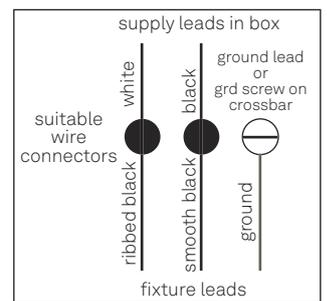

Figure 6. Wiring Diagram
- 8 With the fixture composition in-place, and while the fixture is still supported on the nylon all-thread rods, connect the exposed leads of the fixture to the leads in the electrical box according to the wiring diagram (Figure 6) using the wire and wire connectors provided.